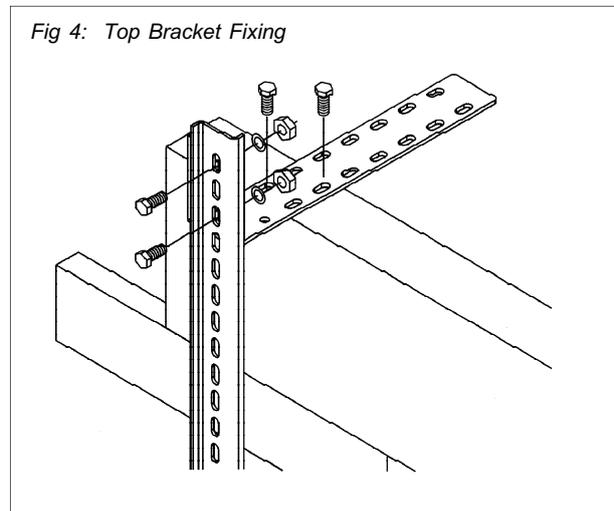

Fig 4: Top Bracket Fixing
4. Use the 'L' brackets to fix the tops of the vertical brackets to an appropriate fixing on the lift car (Fig 4). Ensure the detectors are aligned vertical and straight with each other.